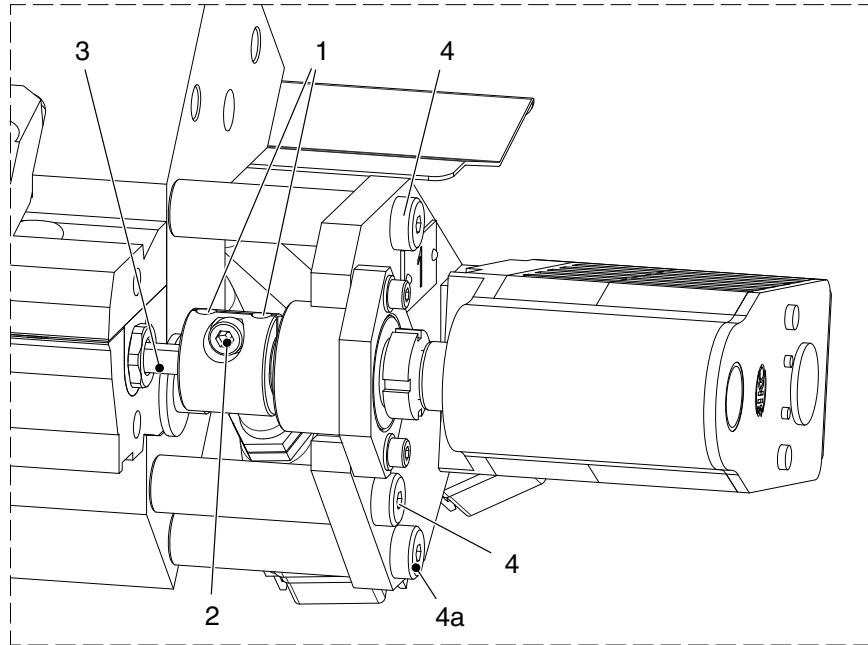
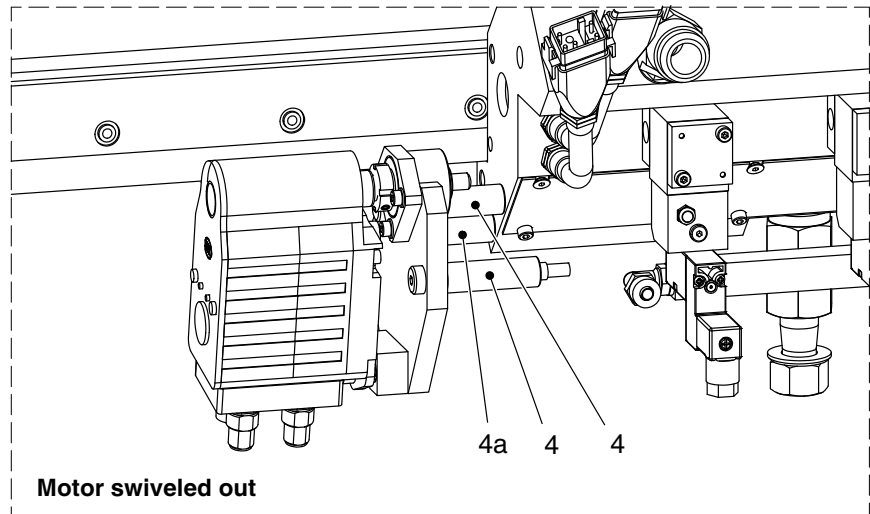

Fig. 33
Fig. 34
3. Release the clamping screw (2, Fig. 33) and the setscrew (1) from the coupling bushing.
4. Slide the coupling bushing towards the nozzle until the end of the spindle is free (3).
6. On the side to which the nozzle is to be extracted, remove the aligning pins (4, Fig. 34) and release the lower aligning pin (4a). Swivel the motor with the side plate around the lower aligning pin (4a).